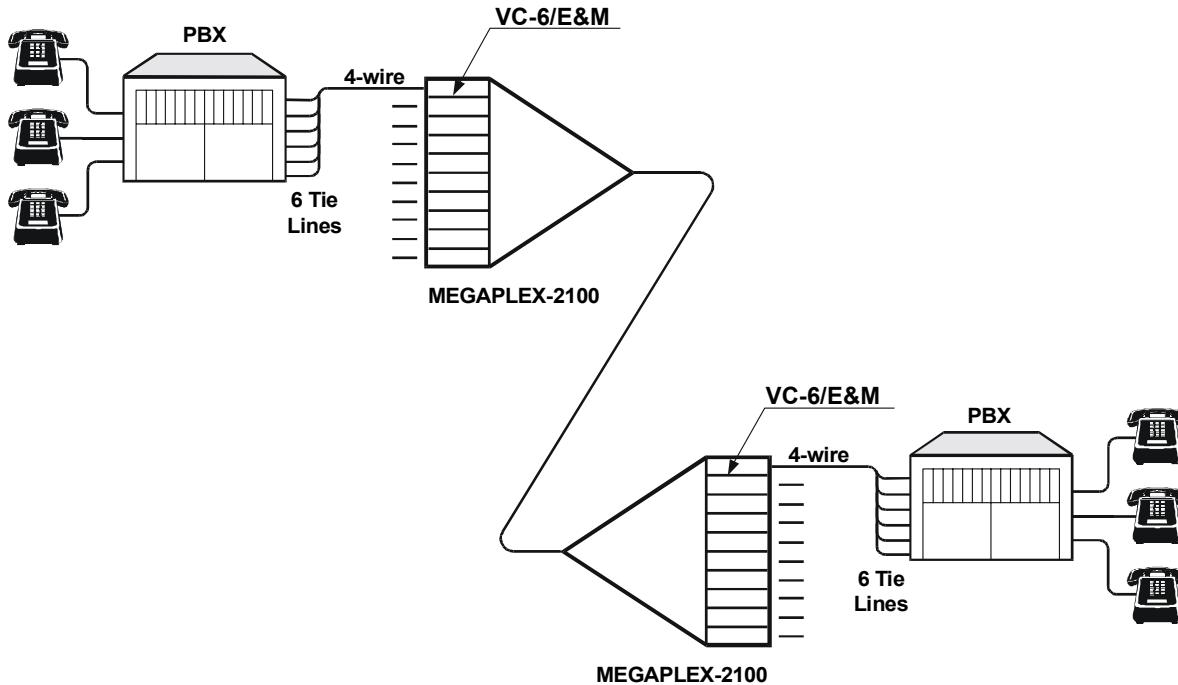
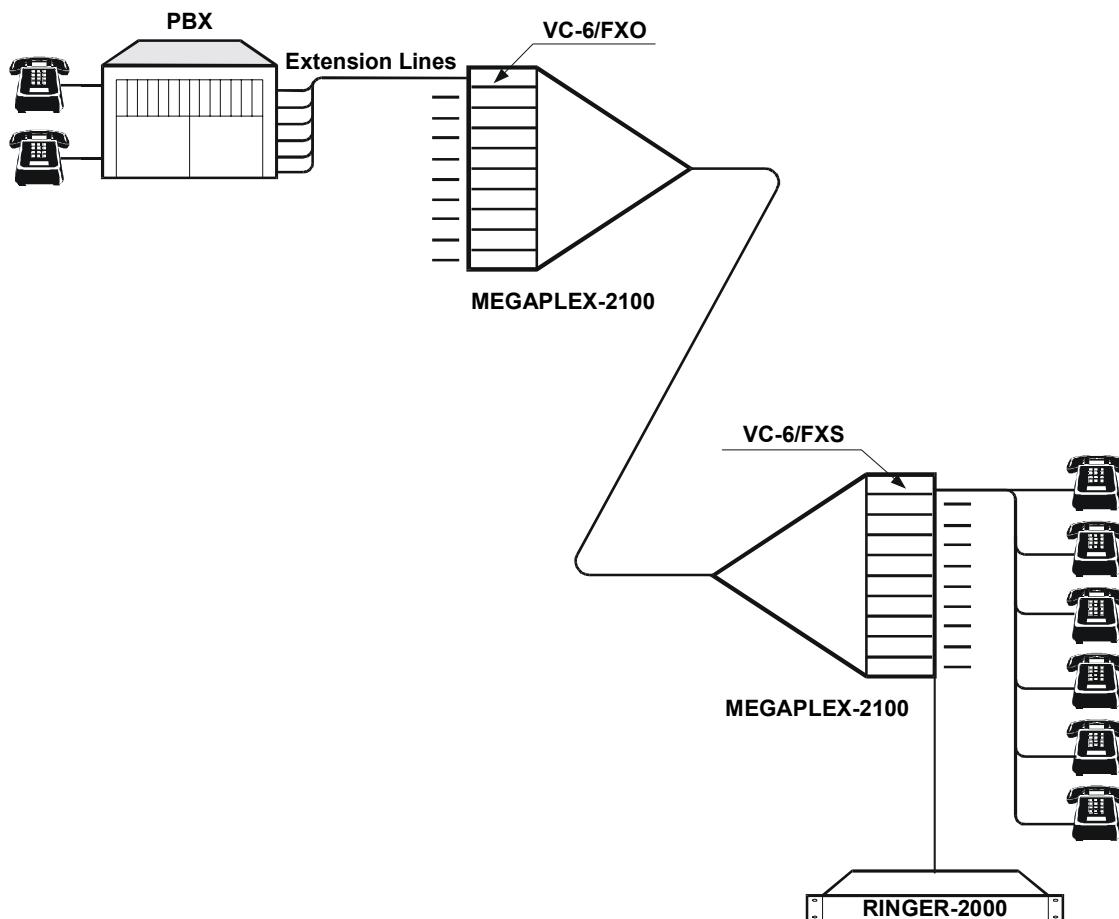
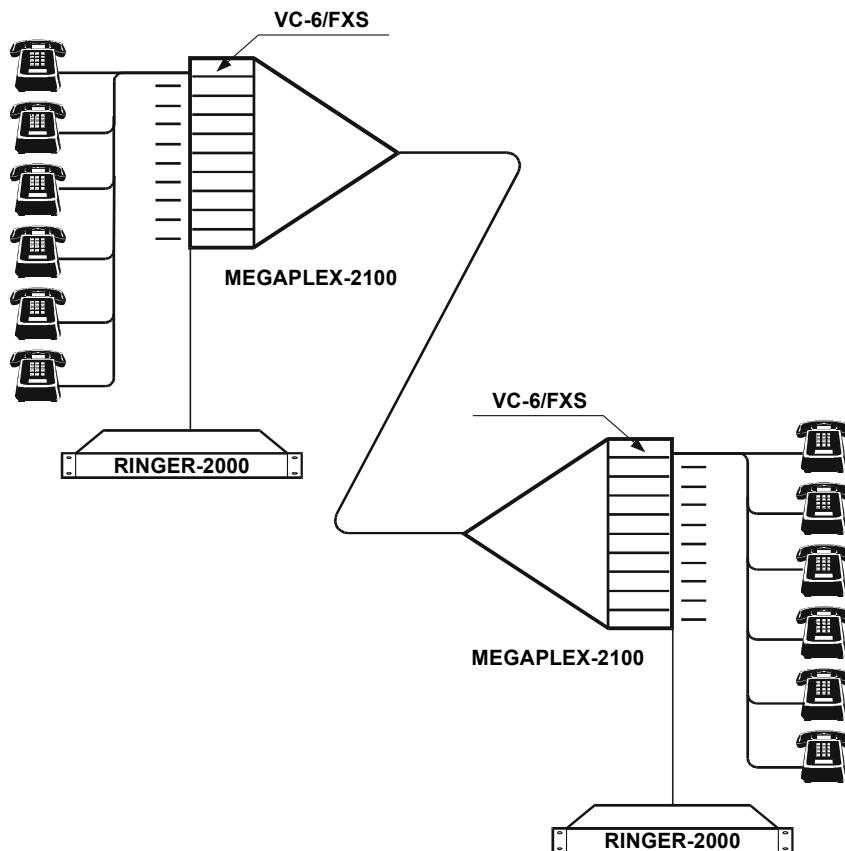

Figure 1-1. Typical Basic Application for VC-6/E&M Modules
Figure 1-2. Typical OPX Application for VC-6/FXO and VC-6/FXS Modules
Figure 1-3. Typical PLAR Application for VC-6/FXS Modules
Figure 1-1 shows a typical basic application for VC-6/E&M modules. In this application the VC-6 modules operate in the normal (bidirectional) mode. VC-6 modules support additional modes (unidirectional or broadcast), explained in the following sections.
In a typical application one VC-6/FXO module is used in a link with a VC-6/FXS module to provide an off-premises extension (OPX), as shown in *Figure 1-2*. This configuration permits the connection of a remote telephone as an extension of a PBX. The remote telephone then becomes a regular local PBX subscriber, which can be dialed by other subscribers using standard procedures, and can also dial any other PBX subscriber.
Another application, which requires only VC-6/FXS modules, is the private line with automatic ringdown (PLAR), or “hot-line”, applications. In PLAR or “hot-line” applications six telephone sets are connected to the channels of two VC-6/FXS modules installed in two different Megaplex units connected in a link, as shown in *Figure 1-3*.
- Profile 1 is intended for use when two VC-6/E&M modules are connected in a link (a typical application of this type is shown in *Figure 1-1*), when an FXS module is connected in a link with an FXO module (a typical OPX application of this type is shown in *Figure 1-2*); when an E&M module is connected in a link with an FXS or FXO module; or when two VC-6/FXS modules are connected in a link (a typical PLAR application of this type is shown in *Figure 1-3*).